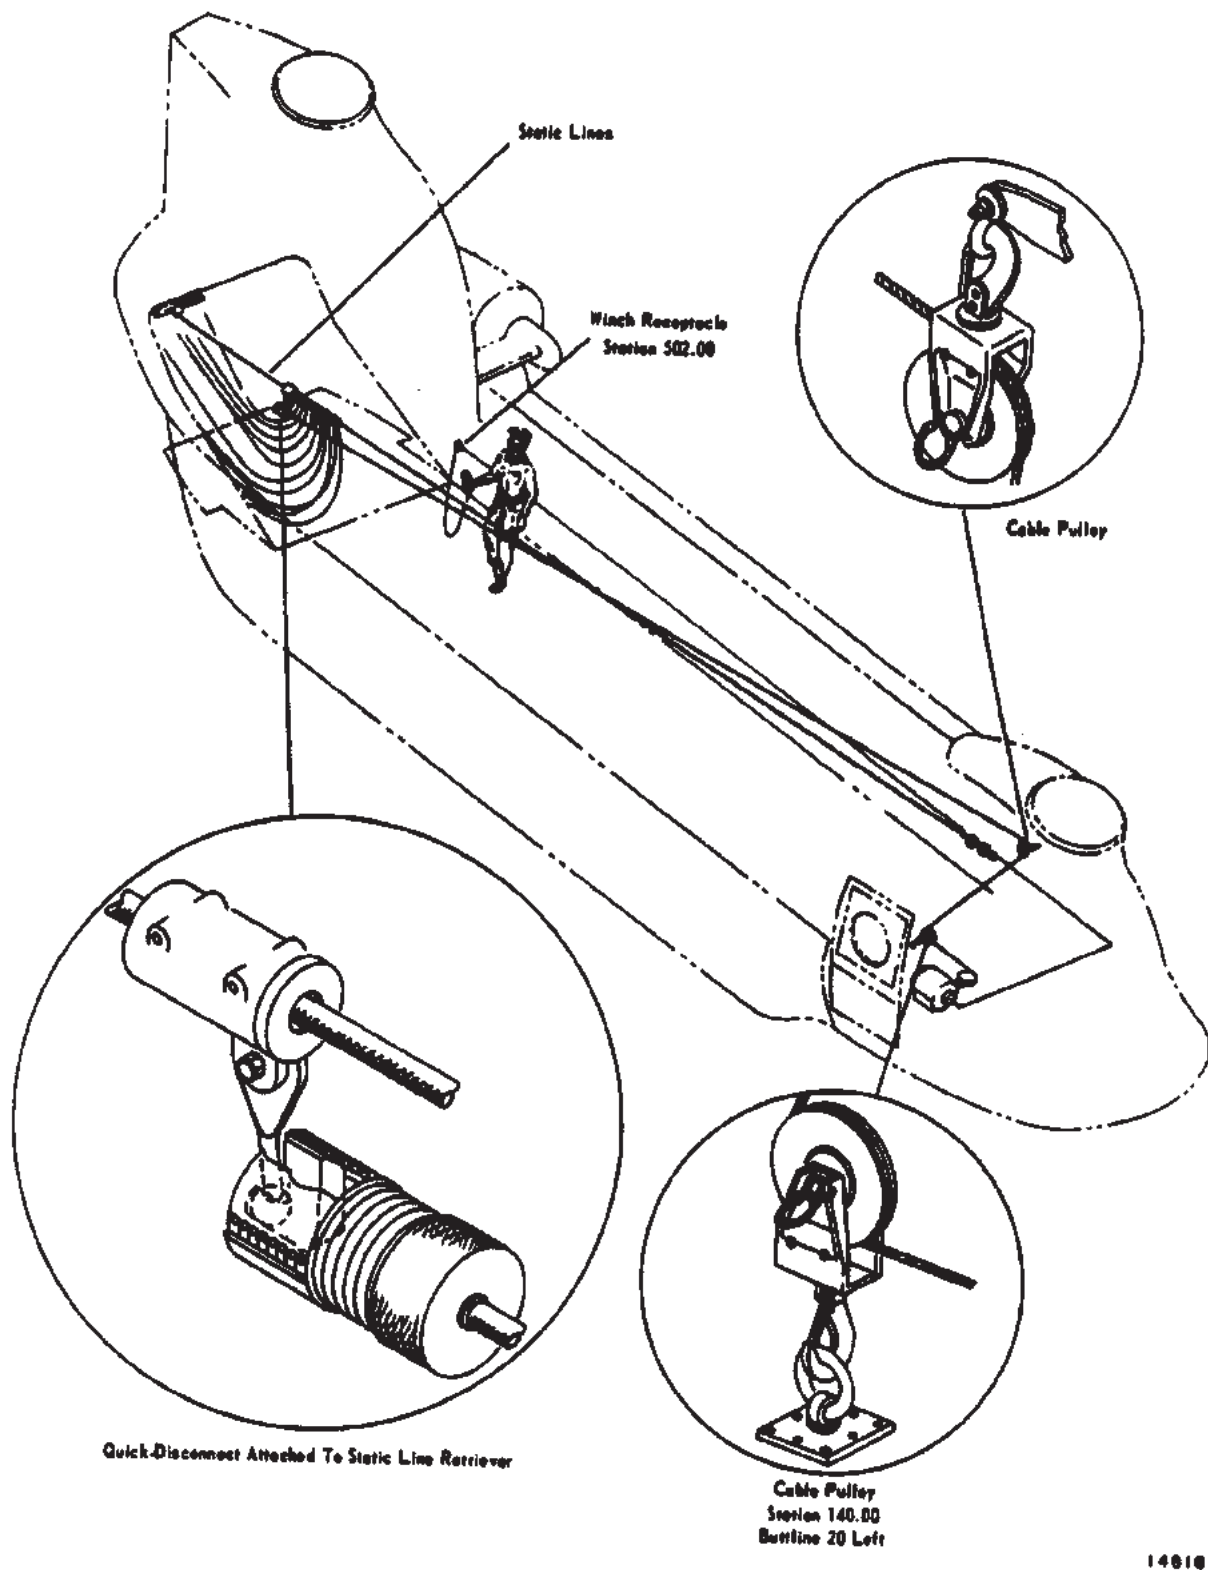

Figure 4-3-11. Static Line Retriever System
A static line retriever is provided with the static line anchor cable (fig. 4-3-11). The retriever is used to haul static lines into the helicopter at the completion of a paratrooper mission and can also be used to haul in a paratrooper *hung up* on a static line. The static line anchor cable and retriever are installed and operated as follows:
- d. Reeve the winch cable through a pulley attached to a 5,000-pound tiedown fitting at sta 140, buttline 20 left and then through another pulley attached at sta 120, buttline 18 left (fig. 4-3-11).